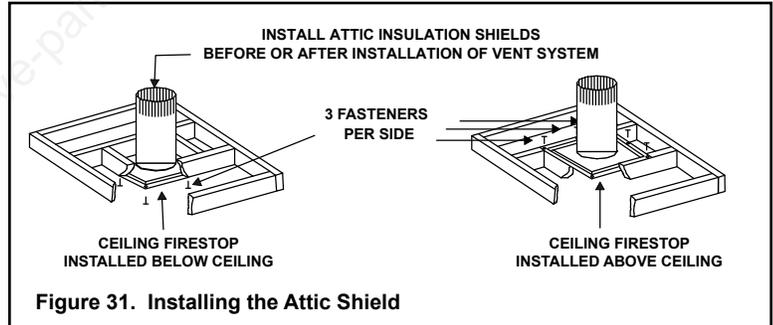

Figure 31. Installing the Attic Shield
- The ceiling firestop may be installed above or below the ceiling joists when installed with an attic insulation shield. It must be under joists between floors that are not insulated. See Figure 31.
- Secure with 3 fasteners on each side. See Figure 31.